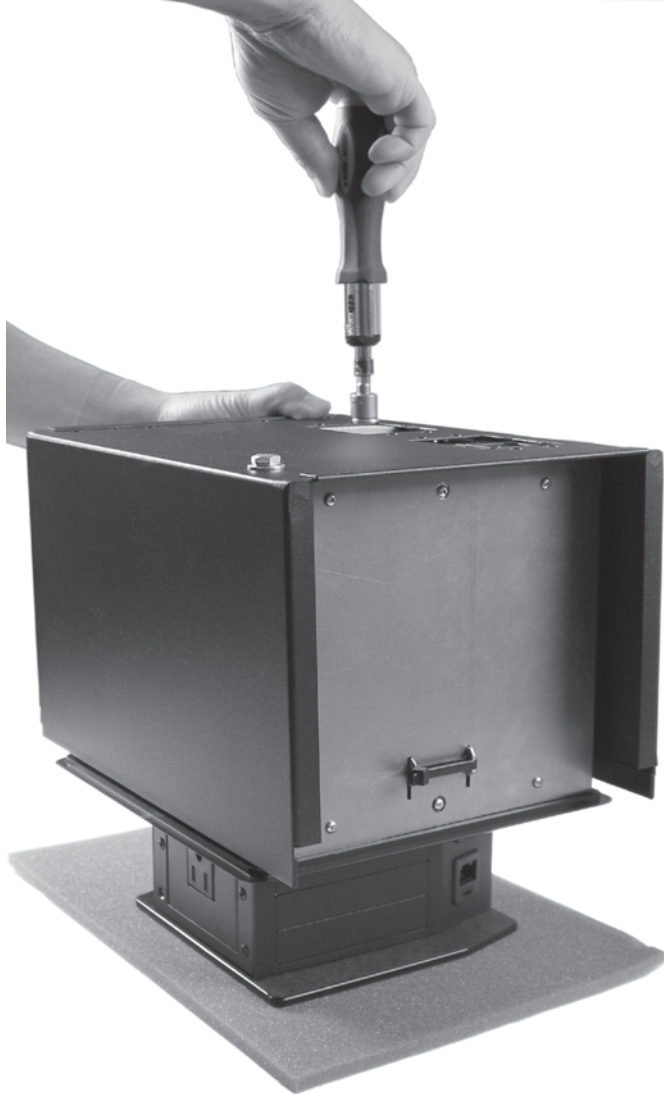

Figure B-3 — Attaching the clamshell
3. Bolt the clamshell to the enclosure with two bolts and flat washers included in the return kit (figure B-3).